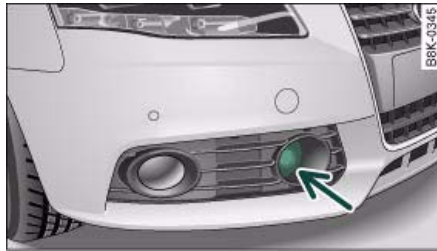

Fig. 136 Trim grille (front right): Position of radar sensor
- The radar sensor is heated. However, in winter conditions, you should make sure that the radar sensor is free of ice and snow before you set off. If necessary, carefully clean the cover of the radar sensor and the surrounding area ⇒ page 128, fig. 136.